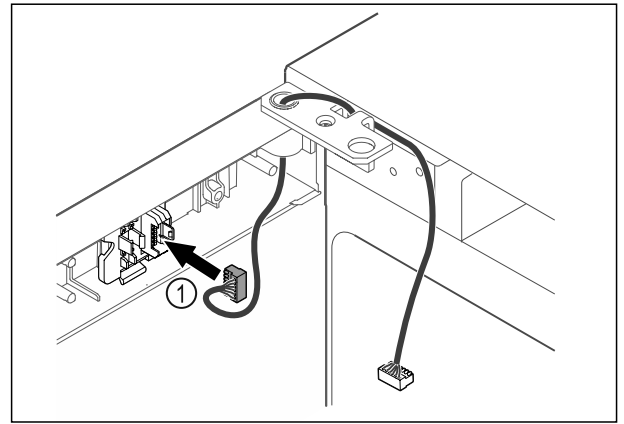

Fig. 62
- Put the plug Fig. 62 (1) in the plug holder.